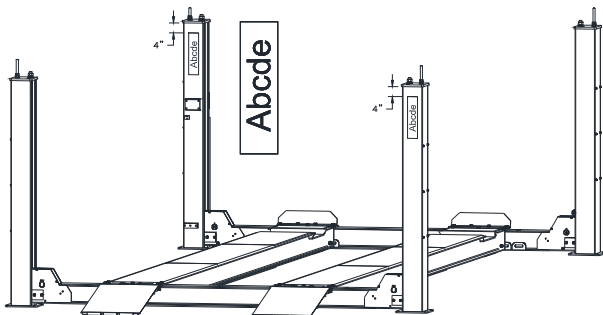

Fig 13 – Decal Placement
- 40) Apply decal 4" from top of columns, **Fig 13**.